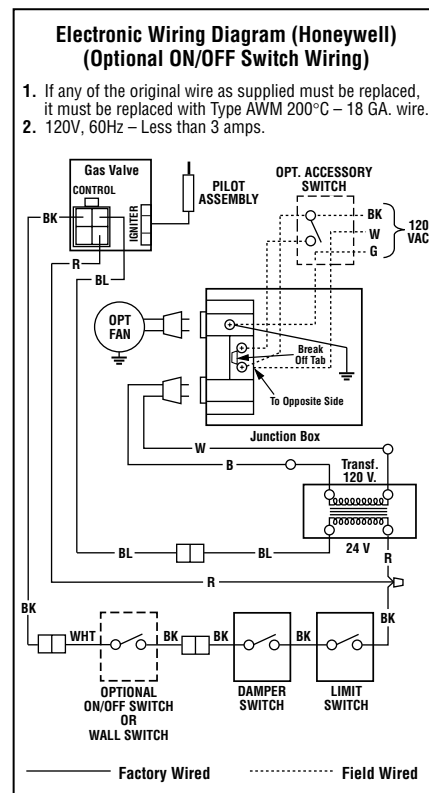

Figure 13
1. Route a 3-wire 120V 60Hz power supply to the appliance junction box and ground. (See **Figures 13 and 15**).
2. Locate and install a low voltage (24V) wall switch (not supplied) in the desired location. Connect the low voltage wire to this switch (see **Figure 13**).
IMPORTANT: Ground lead must be connected to the green screw located on the outlet box. See Figure 13. Failure to do so will result in a potential safety hazard. The appliance must be electrically grounded in accordance with local codes or, in the absence of local codes, the National Electrical Code, ANSI/NFPA 70- (latest edition). (In Canada, the current CSA C22-1 Canadian Electrical Code.)